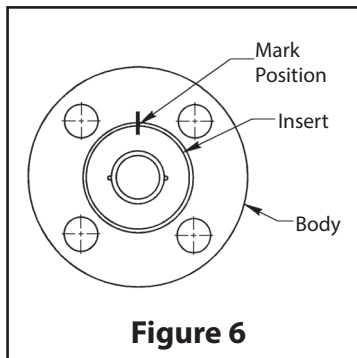

Figure 6
11. Screw the insert (2) into the body until it is fully seats, and then mark its position as shown in **Figure 6**. Counting the number of turns, remove the insert.